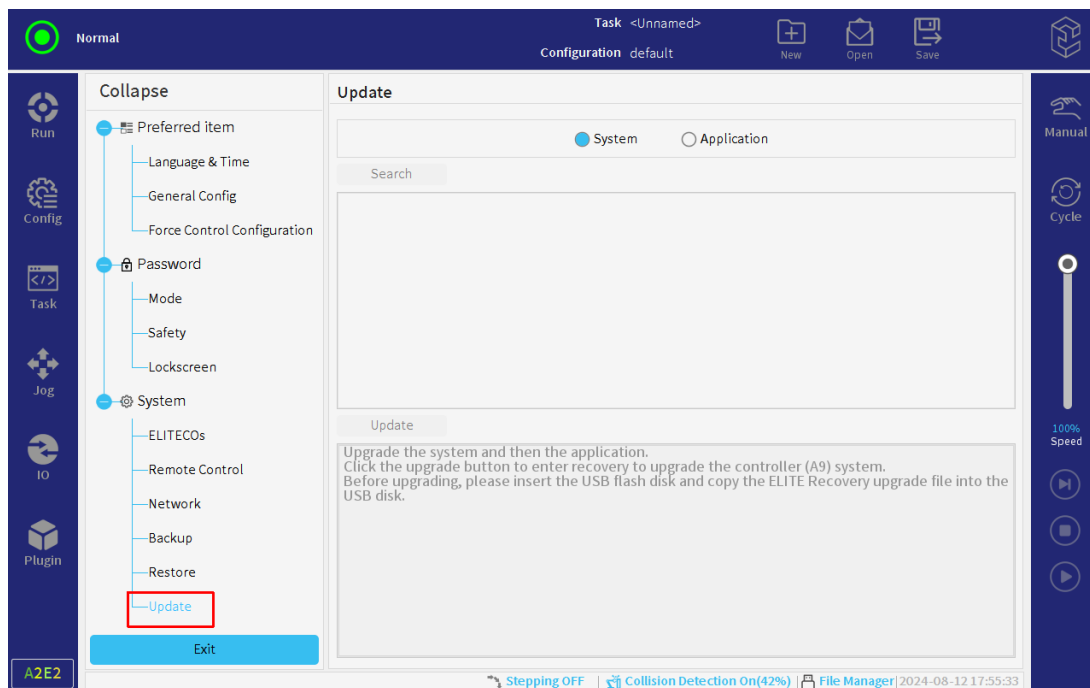

Figure 3-27 : Update
2. Select "Settings > System > Update", as shown in **Figure 3-27**.